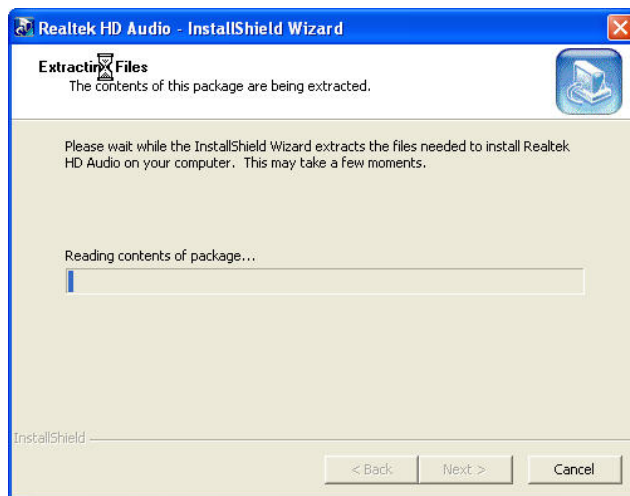

Figure 7-23: HD Audio Driver Setup Extracting Files
Step 4: Once the **WDM_R140** icon is double clicked, the contents of the installation package are extracted. See **Figure 7-23**.